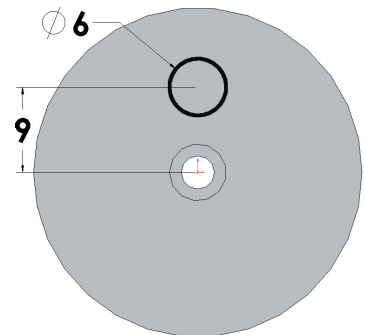

Fig. 13
Step 4. Draw a circle for the hole directly **above** the Origin  , **Fig. 13**. Use the inferencing line, the dotted line that appears when you draw the circle.
Step 6. Dimension as shown in **Fig. 13**.